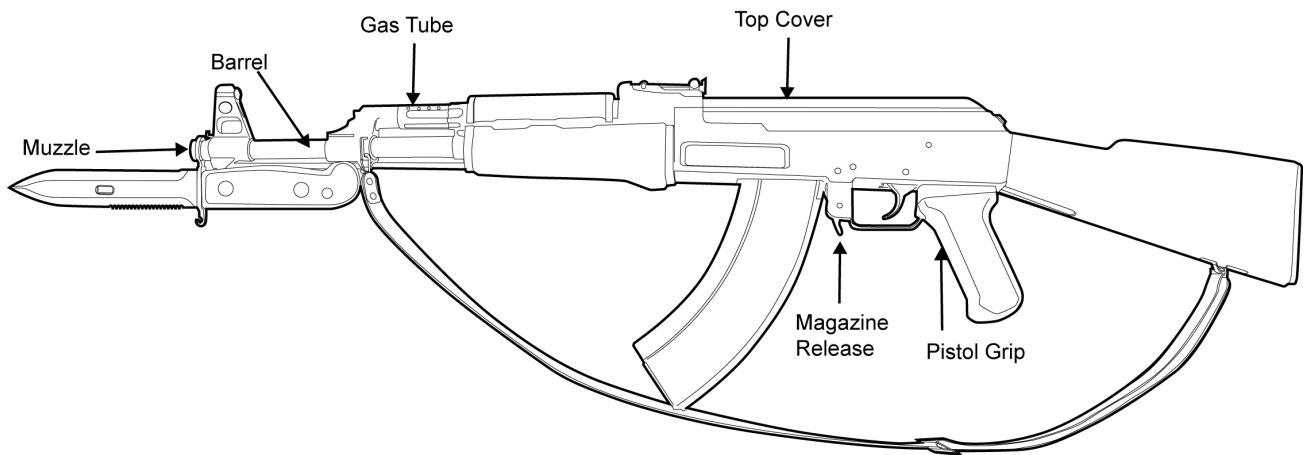

Figure 1. Left Side of the AK-47 Rifle.
4. **Left Side.** The left side view of the weapon displays the muzzle, barrel, gas tube, top cover, magazine release, and pistol grip. Refer to Figure 1.